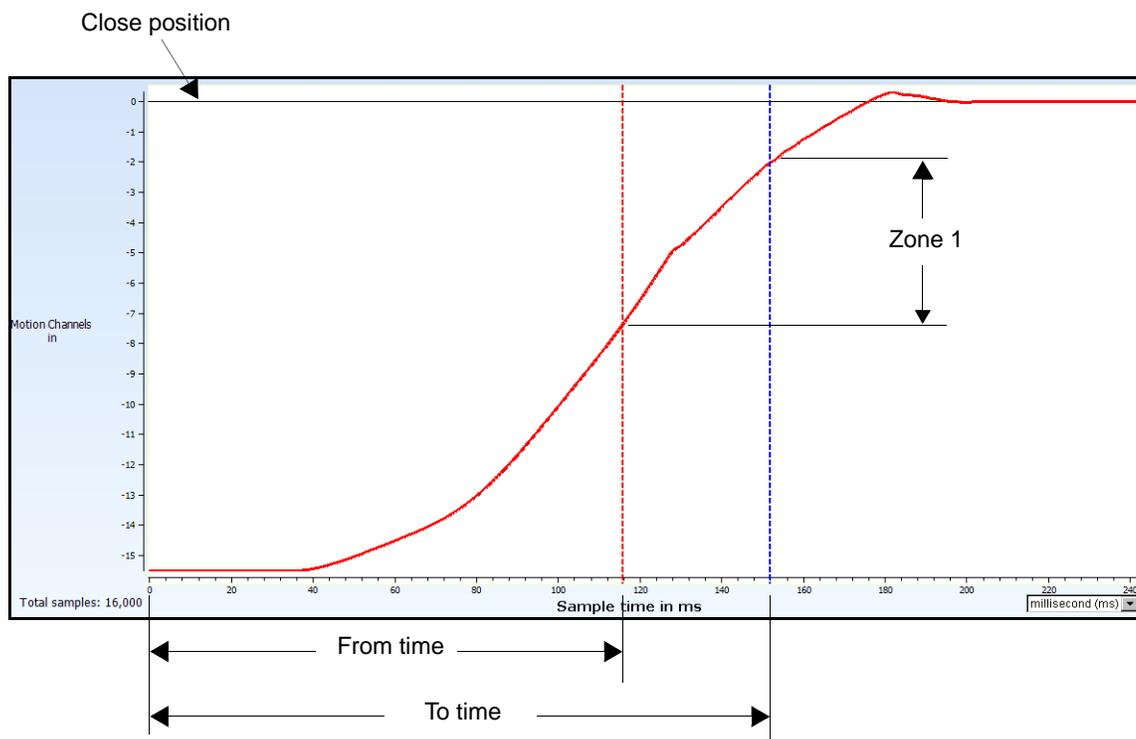

Figure 73 Average Velocity Time to Time Close Operation
- Time to Time—The circuit breaker average velocity is calculated between the two times specified. In Figure 73, the end time (*TO*) must be greater than the start time (*FROM*).